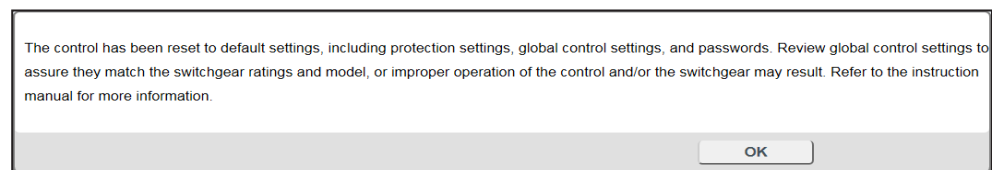

Figure 27. The factory reset confirmation message.
STEP 3. When the factory reset is complete, a confirmation message will appear. See Figure 27.